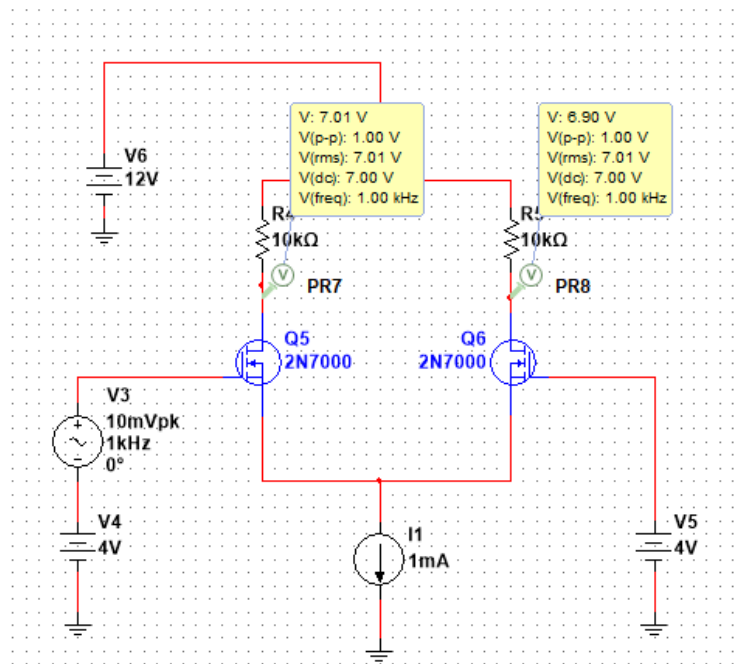

Figure 5
Understanding the working of a differential amplifier is simple. We take the output between both the drains of the MOSFET's. For reference observe Fig.5. The probes correspond to the output voltages.
Now, we will not get a current source in real life, as we have used in Fig.5, hence we replace it with the current mirror we built. The output is not much affected.
- If we have a constant current source, then if the current through 1 MOSFET increases, the current through the other MOSFET is forced to decrease. This is a benefit, as if we see Fig.5, if the gate voltage of MOSFET Q5 increases, then the current passing through it increases, which increases the voltage drop across the corresponding resistor. Therefore, the current passing through Q6 decreases, the voltage drops across the Q6 resistor decreases. Thus, we see if one output voltage decreases, the other increases. This gives twice the result that we want.